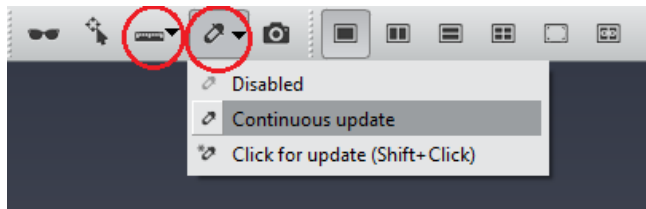

Figure 19.6: Quick Probe or Measure tool can be used to Estimate the Maximum Displacement
- Estimate the maximum displacement in this region. To do so, ensure that the Quick Probe from the Viewer Toolbar is set to *Continuous Update* (Figure 19.6) then place the mouse on the 3D viewer and read the coordinates displayed in the progress bar. Be sure to be on Interact mode (if not, press **ESC**).